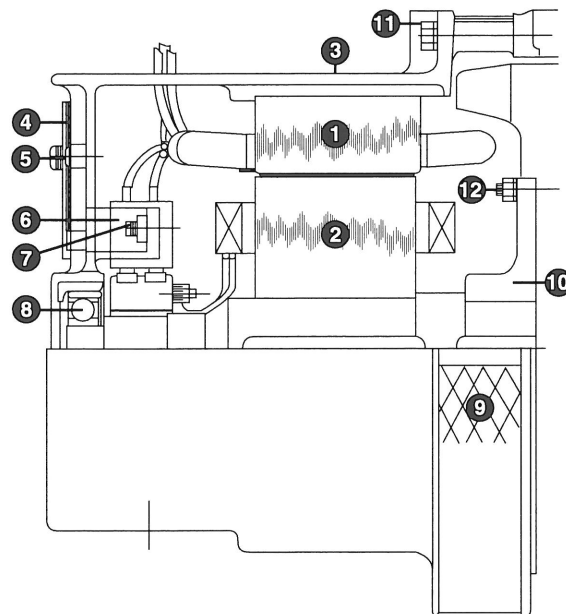

Figure 23: Generator Components.
3. Generator voltage builds up from the residual magnetic field of the rotator located in the generator (Figure 23, Item 2) and electrical output voltage is controlled by the automatic voltage regulator (AVR) located in the control box (Figure 24, Item 6).
### CONTROL BOX (Figure 23)